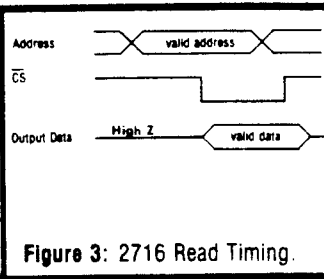

Figure 3: 2716 Read Timing.
(CS) input of the read only 2716 (IC6). When the CS input (pin 20) is pulsed low (with pin 18 tied low and pin 21 held high) data flows from the memory location addressed on the EPROM into the VIC-20. Figure 3 shows the timing diagram of the 2716 read operation. The following software is required to perform the read only EPROM read operation: